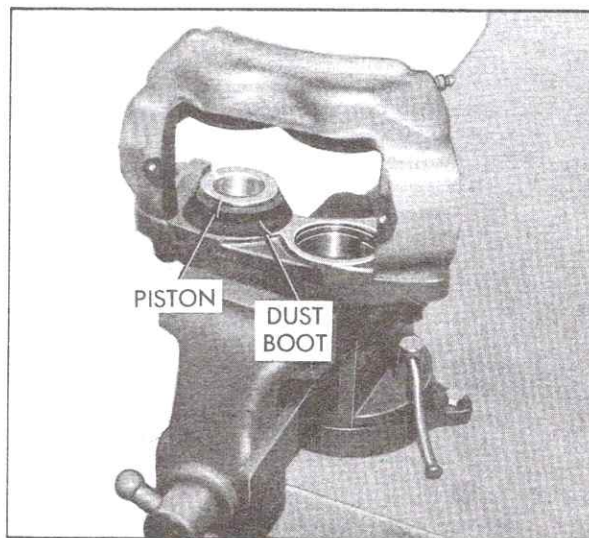

Fig. 5-37 Piston Installed in Dust Boot
6. With thumb and forefinger, compress dust boot against piston and work dust boot around piston until piston is installed in dust boot, Fig. 5-37.